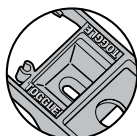

Figure 1
- When "TOGGLE" appears through the cover, the lockout device is set for a toggle-style switch. (See Figure 1)